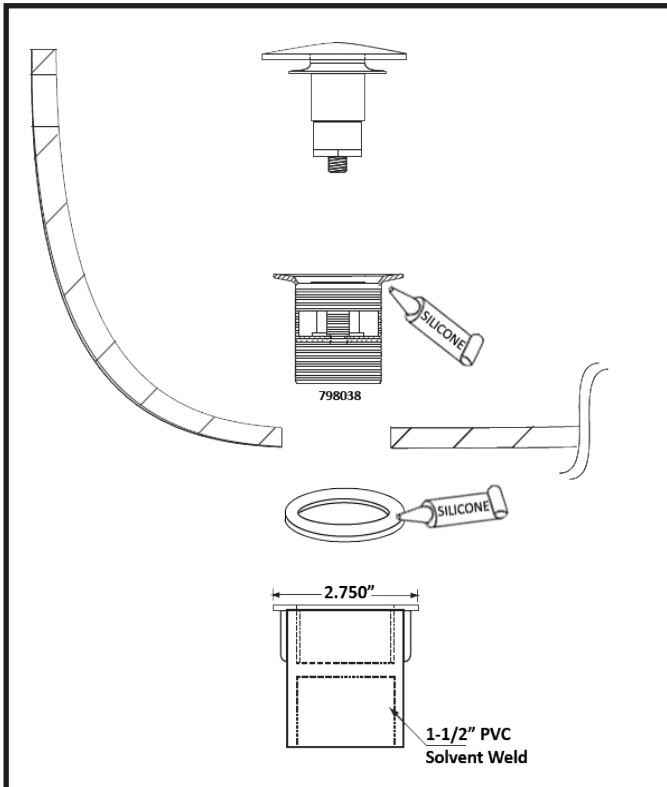

FIGURE 3
10. Install drain: Measure and dry fit all connections. Use silicone sealant under tub drain. See Figure 3. Place rubber gasket on overflow straight connector using silicone and thread in drain. Thread in stopper.